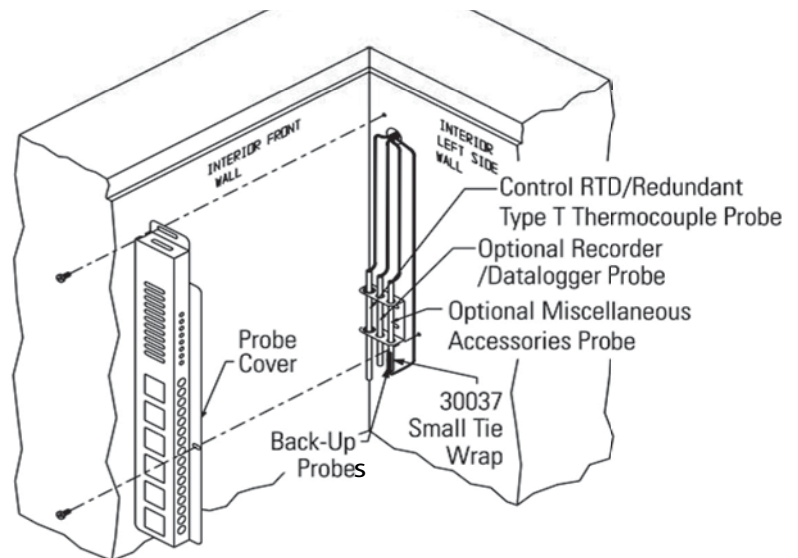

Figure 7-5. Probe location
- Open the freezer lid and locate the probe cover on the upper front left wall. Remove the two Phillips head screws securing the probe cover (see Figure 7-5).
- Route the BUS probe through the probe port, approximately 12". Secure the back-up probe to the temperature probe using a small tie wrap (Figure 7-5).
- Reinstall the probe cover (Figure 7-5).